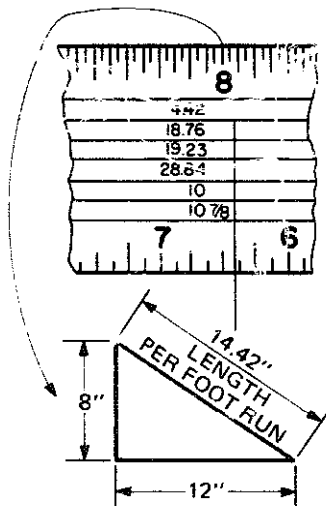

Fig. 3-6 Finding the rise figure on the inch line
1. Find on the inch line on the top edge of the body the number that is equal to the rise of the roof. In this case, the number is 8. See figure 3-6.